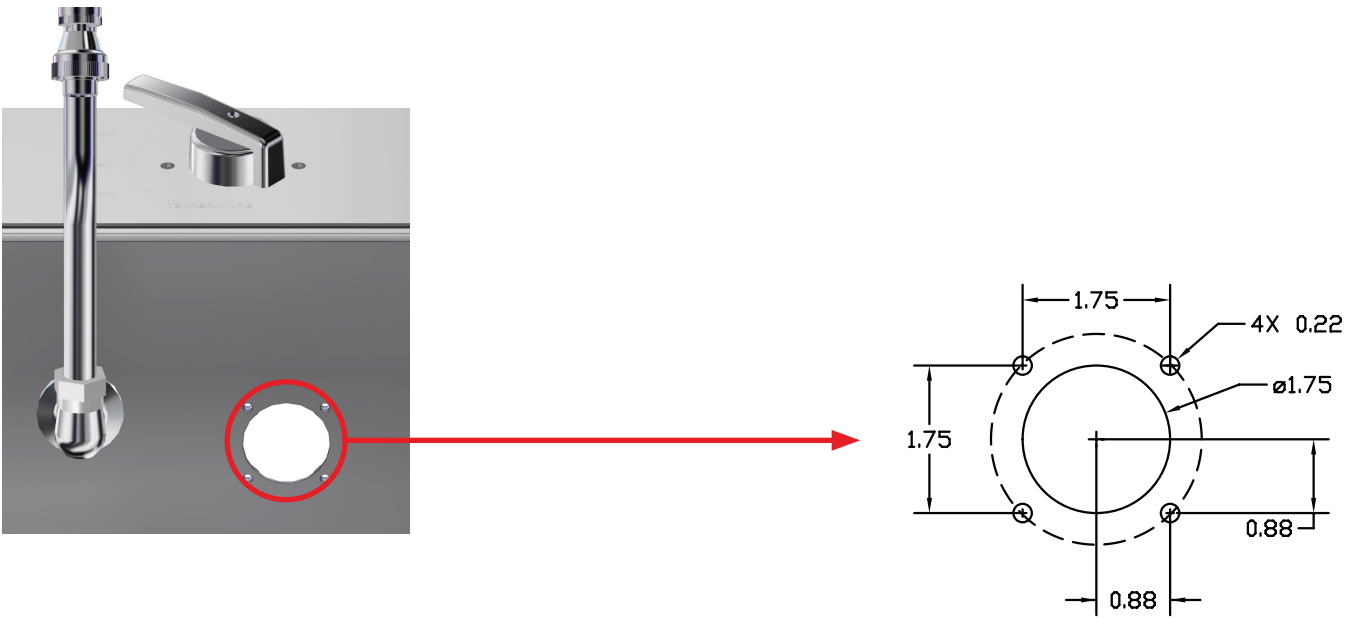
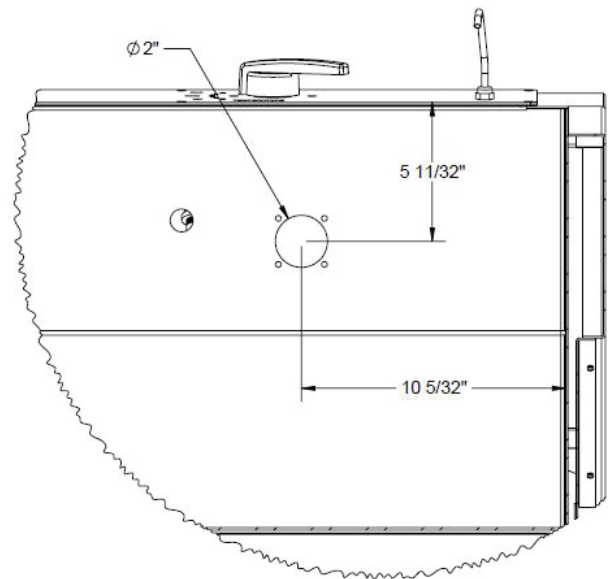

Figure 2: Hole Drill Pattern – Scrub Sinks
Figure 3: Hole Location
1. Drill a hole pattern with the dimensions (shown in Figure 2) on the front face of the back sink basin wall. Locate the hole at the position indicated in Figure 3.